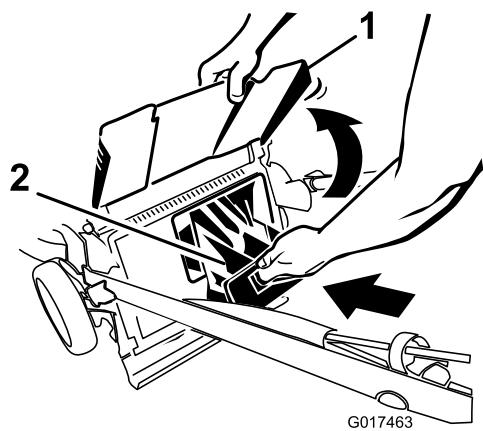
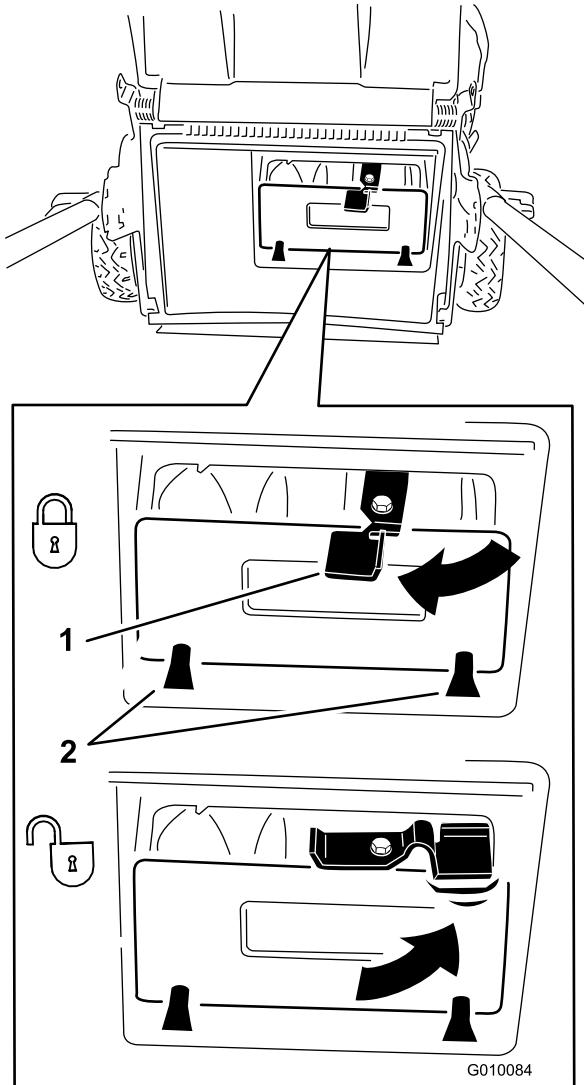

Figure 18
Figure 19
**Important:** Ensure that the rear discharge plug is locked in place. To lock the plug: Raise the discharge deflector (Figure 18), firmly push the plug in until it snaps into place behind the tabs, and rotate the lever on the plug to the left (Figure 19).